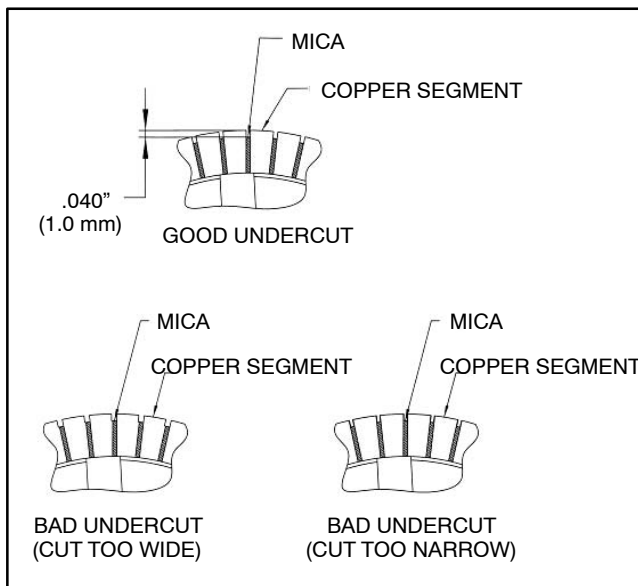

Figure 61
4. After the commutator is turned, undercut the mica to a uniform depth of 0.040" (1.0 mm). Be careful to only cut the mica and not increase the slot width (Fig. 61).